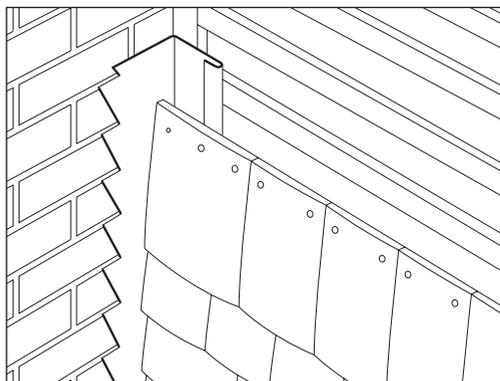

Fig 87 – Abutment to wall, with flashing
- When meeting timber cladding or a window jamb, turn flashing behind cladding or return into the jamb (Fig 87).